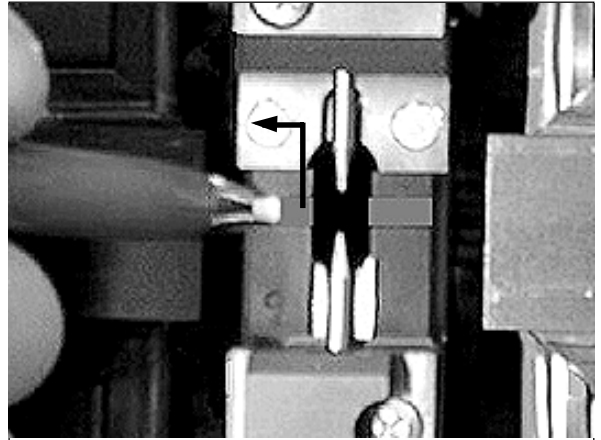

Fig. 91 - Cleaning the V-grooves
2. Using the special brush provided, clean the V-grooves, starting from the inside edge and moving outwards (fig. 91).